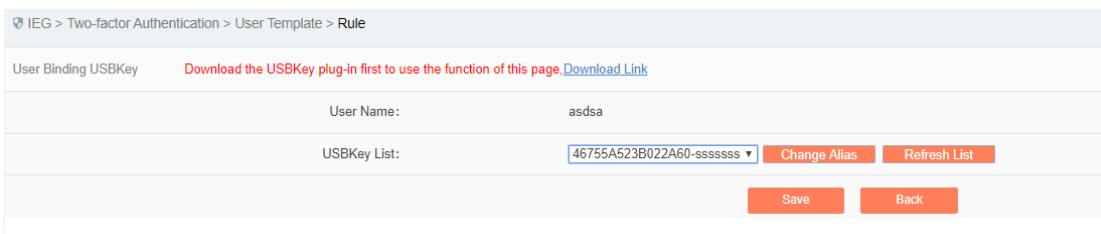

Fig.4-74 User Binding USBKey Interface
6) USBKey binding, USBKey unbinding and PIN code reset. When the user selects the normal password authentication mode, USBKey binding appears behind the user. Click <USBKey Binding> to pop up a USBKey list, select the USBKey and click to save it (as shown in Fig.4-74):